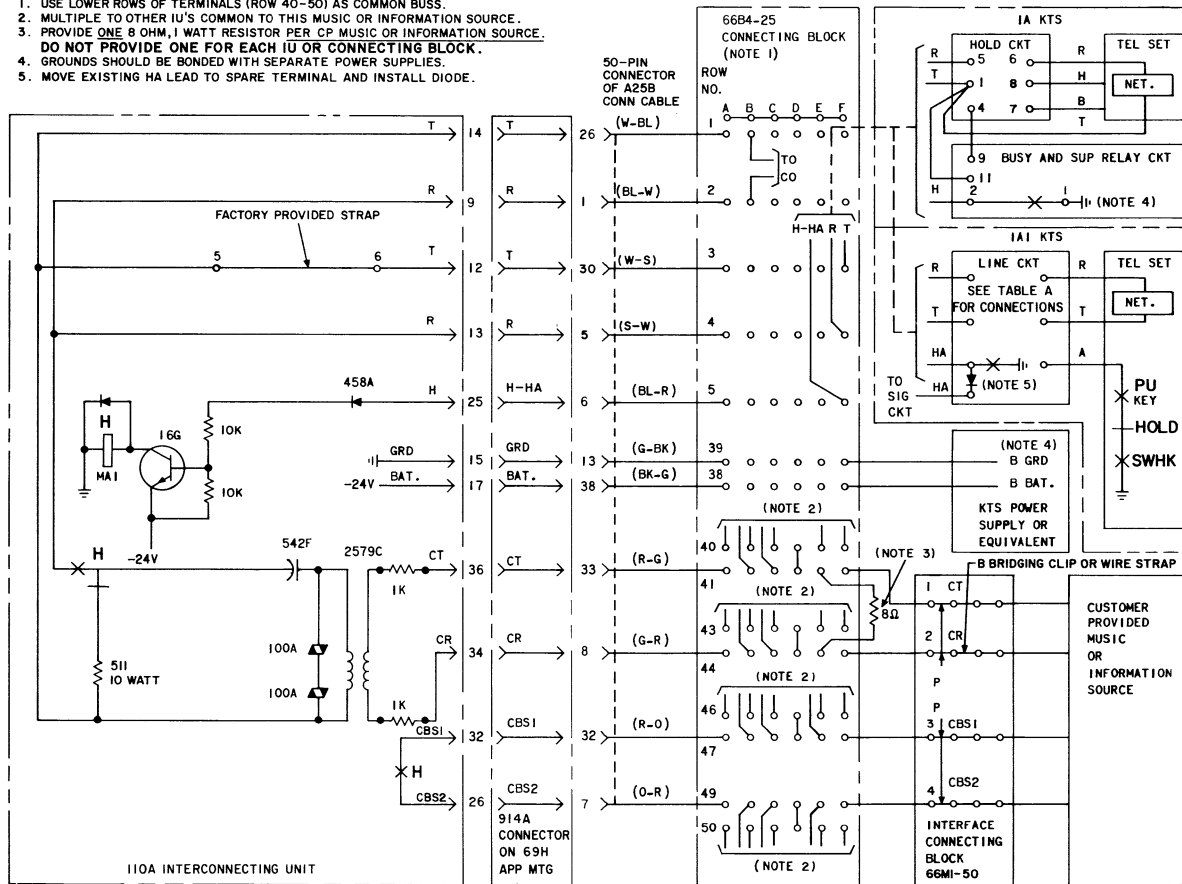

Fig. 4—Connections for Voice Connecting Arrangement LVH with 1A and 1A1 KTS
**1A or 1A1 Key Telephone System (110A IU, Fig. 4)**
#### 110A Interconnecting Unit (Fig. 4)
◆ **Note:** Since the HA leads are multiplied between lines in the 1A1 KTS, isolation of the HA lead is necessary to prevent the H relays of all IUs from operating when any line of the KTS goes on hold. To provide isolation of the HA lead when a 202-type KTU is used, remove any existing HA lead from the KTU terminal shown in Table A and connect to a spare terminal. Connect the HA lead from the 110A IU to the vacated terminal. Connect a KS-15724, List 1 or equivalent diode between the two terminals, observing polarity as shown in Fig. 4. To provide isolation of the HA lead when a 230-, 238-, or 239-type KTU is used, use a 227B KTU as shown in Fig. 8 and Table A.◆
REFER TO FIG. 4 FOR 1A KTS
REFER TO FIG. 4 AND TABLE A